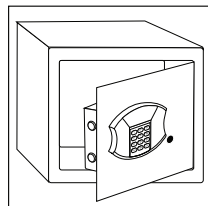

Figure 4
4. Remove override access key and store it in a safe place away from the safe. Replace the cover over the key lock and proceed to "Install Batteries" (Figure 4).